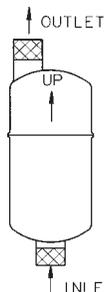

Figure 1-1: Series 1000
5. For proper operation, the trap body must be upright in a “vertical to the eye” position. See Figures 1-1, 1-2, and 1-3 for proper trap orientation and wrenching surfaces. **NOTE: Use of wrenching surfaces other than specified on the Series 2000 connector can result in damage to the gasket seating area.**